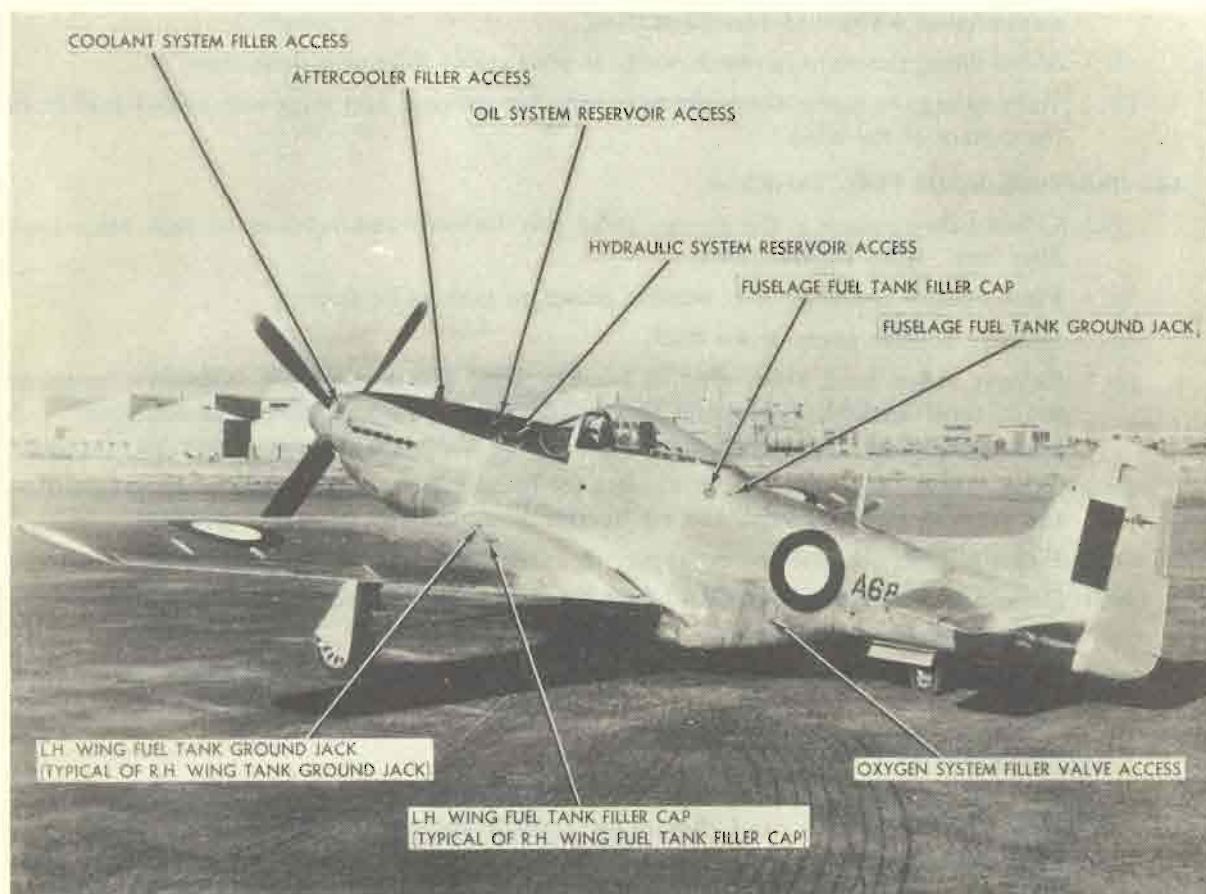
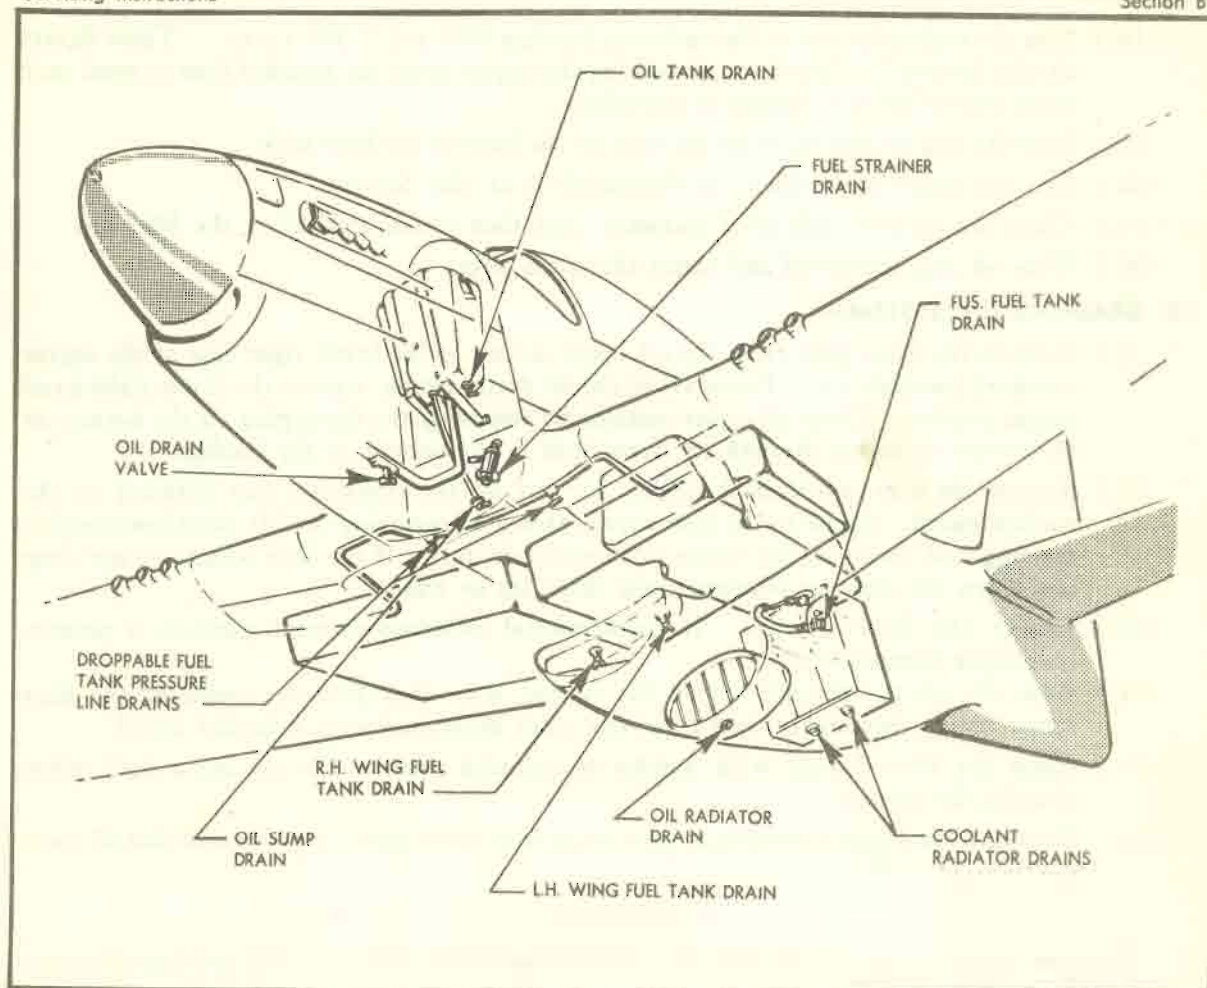

FIGURE 214—SERVICING PROVISIONS
FIGURE 215—FUEL, OIL AND COOLANT DRAINS
The main tanks are filled individually through filler necks on the upper surface of the respective wing panels. (See Figure 214.) The ground jacks are located just forward and inboard of each filler neck. When filling the tanks, observe the following precautions:—
- (i.) Ground the airplane at the ground jacks just forward and inboard of each main tank filler cap. (See Figure 214.)
- (vii.) Drain any fuel which has settled in aft end of tanks by opening the drain cocks on the aft inboard end of each tank. (See Figure 215.)
Before filling the fuselage tank, ground the airplane at the ground jack located just below the fuselage tank filler neck, and then drain a small amount of fuel from the drain cock, which is accessible through a Dzus-fastened door on the left underside of the fuselage; this will eliminate accumulated water and foreign matter. Fill the tank through the filler neck on the left side of the fuselage just aft of the canopy. (See Figure 214.)
Ground the airplane at the ground jack just aft of the fuselage tank filler cap (Figure 214), and then open the drain cock which is accessible through a Dzus-fastened door on the left underside of the fuselage. (See Figure 215.) After draining the tank, tighten and safety the drain cock.
The oil filler neck is accessible through a small Dzus-fastened door on the left side of the upper engine cowling. (See Figure 214.) If foam is present when replenishing the tank, be careful to get a proper reading of the oil level.
The header tank filler cap is accessible through the Dzus-fastened door at the forward end of the upper left engine cowling just aft of the propeller spinner. (See Figure 214.) The after-cooler expansion tank is accessible through the door on the top left engine cowling just forward of the oil tank filler cap access door. Because the pressure-type cooling systems require closed circuits, air traps are likely to occur when filling the system. Therefore, sealed vent lines are provided to bleed off the air when the system is being filled. The vents for both systems are located just inside the left wing rear fillet.
- (i.) Remove the drain plugs from the coolant pump and engine cooling section of the radiator. (See Figure 215.) The pump drain plug is accessible through the lower left engine cowling. A door beneath the coolant radiator provides access to the engine cooling system drain plug located on the left-hand side of the radiator.
- (ii.) Remove the header tank filler cap to allow air to enter the system as the coolant drains. The filler cap is accessible through the Dzus-fastened door at the forward end of the upper left engine cowling just aft of the propeller spinner. (See Figure 214.)
- (i.) Remove the drain plug from the after-cooling section of the radiator. (See Figure 215.) A door beneath the coolant radiator provides access to the after-cooling system drain plug on the right-hand side of the radiator.
- (ii.) Remove the after-cooler expansion tank filler cap to allow air to enter the system as the coolant drains. The filler cap is accessible through the door of the top left engine cowling just forward of the oil tank filler cap access door. (See Figure 215.)
The oxygen filler valve is accessible through the access door on the left side of the fuselage just below the insignia. (See Figure 214.) A standard trolley using six oxygen bottles and with pressure gauge installed in the filling line should be used in filling the oxygen system.